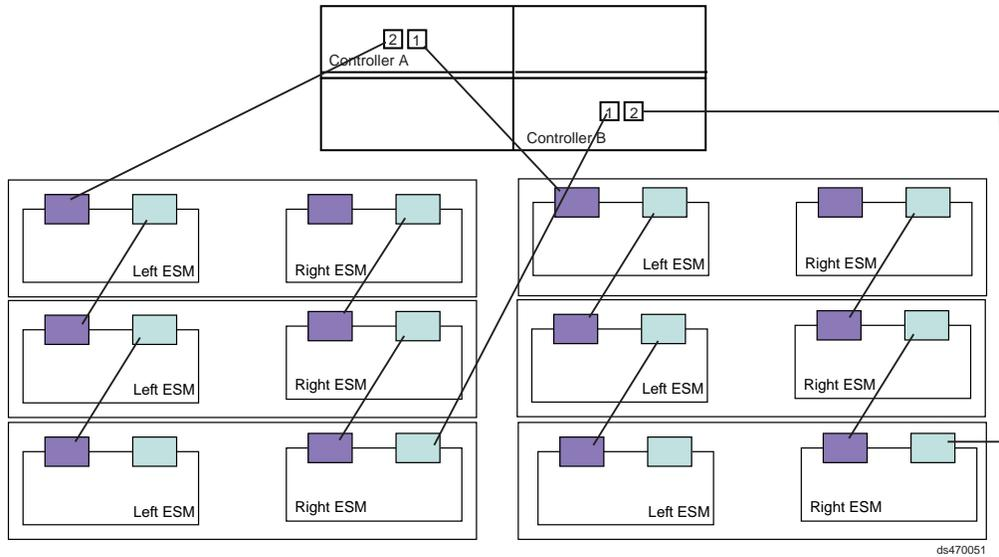

Figure 44. One DS4200 Express and up to six storage expansion enclosure — Recommended cabling
If you are cabling one DS4200 Express Storage Subsystem and up to six storage expansion enclosures, Figure 44 on page 62 shows the recommended cabling topology.
4. When connecting six storage expansion enclosures to a DS4200 Express, use all ports in both drive channels. See Figure 44 on page 62 for the recommended cabling topology.